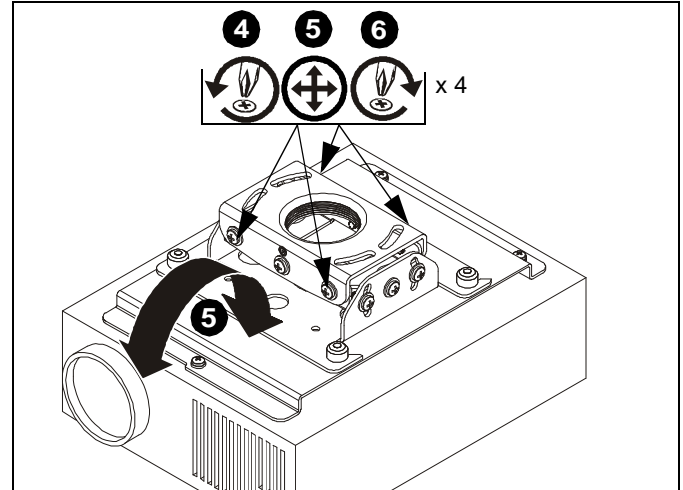

Figure 8
5. Adjust projector to desired position. (See Figure 8)